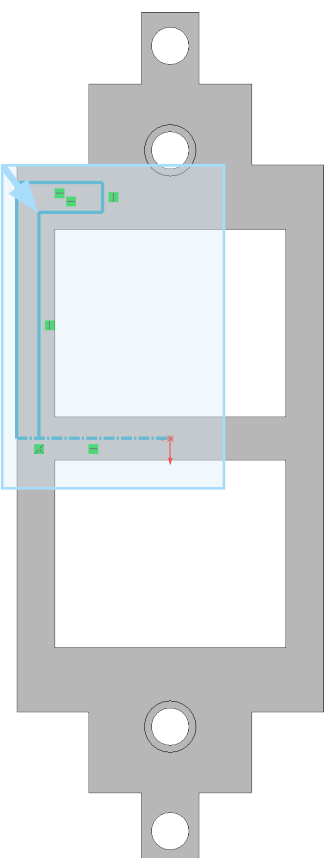

Fig. 37
Step 8. Drag a selection to **right to select all geometry**, **Fig. 37**.